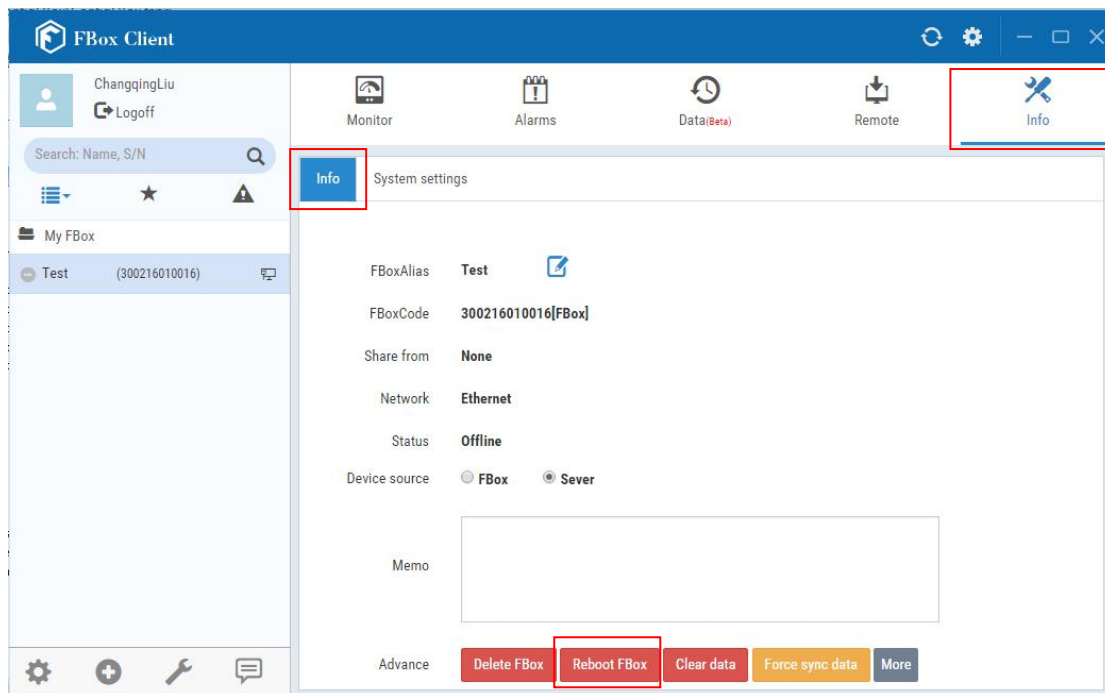

Fig. 4.5-1 Reboot FBox
(1) Log in your account after running the FBoxClient. Select the FBox device to be rebooted in the FBox device list area. Then click the "Info" function button and select the "Info" subtab page. Click the "Reboot FBox" button in the "Info" subtab page, as shown in Fig. 4.5-1.